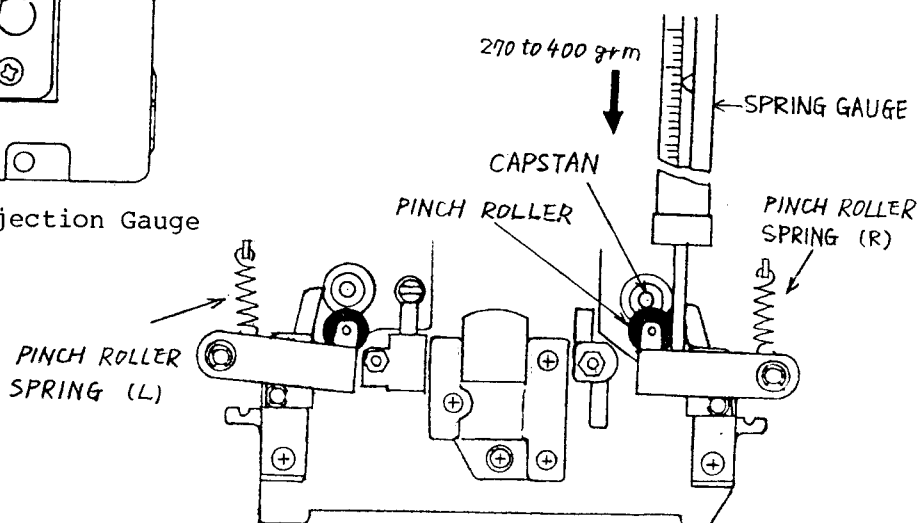

Fig. 3-4
2. PINCH ROLLER PRESSURE MEASUREMENT (Refer to Fig. 3-4)